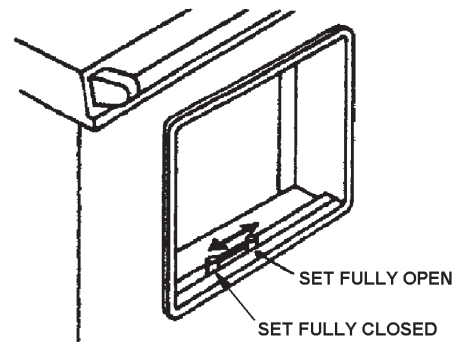

Fig.6
to the heating requirement. (See Fig. 6).
- With fire established, open firebox door and fill firebox with fuel. Check secondary air slide setting (Fig. 6). Open - heating, closed - cooking.
- With the fire established open the firebox door and fill firebox with fuel. Check secondary air slide setting (Fig. 6). Open - heating, closed - cooking.